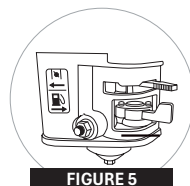

FIGURE 5
- PLACE THE FUEL COCK IN THE OPEN POSITION;(**FIGURE 5**)